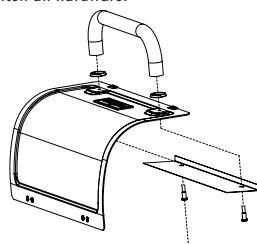

FIG. 6
1. Install the handle as shown in Fig 6.